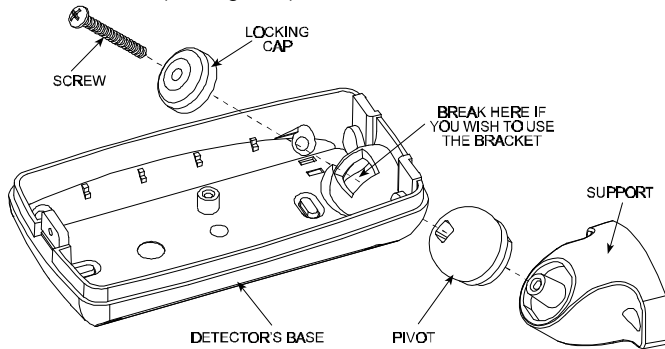

Figure 6. Attaching the Bracket
- C. Punch out the large knockout in the round bulge at the top part of the base (see Figure 6)
- D. Assemble the bracket as shown in Figure 6.